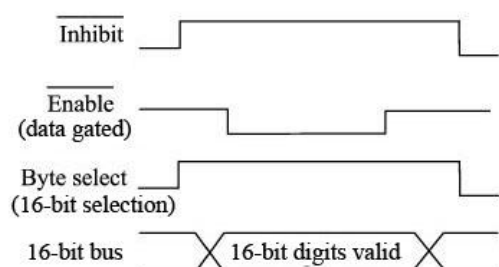
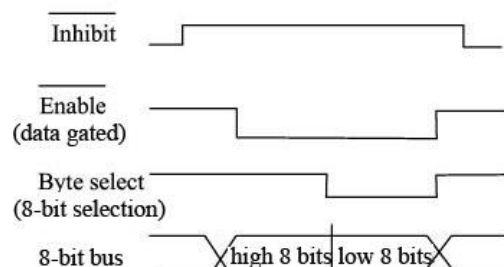

Fig4 Time sequence of 16-bit bus transfer
Fig5 Time sequence of 8-bit bus transfer
This pin is the input pin of control logic, its function is to output data externally to the converter to realize optional latching or bypass control. At high level, the output data of the converter is directly output without latching, see the time sequence diagram of the data transfer. At low level, the output data of the converter is latched, the internal loop is not interrupted, and tracking remains working all the time, but the counter doesn't output data. When it is needed to transfer data, the converter first makes  $\overline{\text{Inhibit}}$  control signal to lock the data from high to low, keeps logic low for 640ns, then set  $\overline{\text{Enable}}$  input to low (at this time the device occupies the data bus), and then obtains data through Byte select, then turn all control logics to high to refresh and latch the data so as to get ready for transferring the next data, please refer to time sequence diagrams of data transfer Fig.4 and Fig.5.
#### (3) Attenuation method of input signal (Fig.4 and Fig.5)